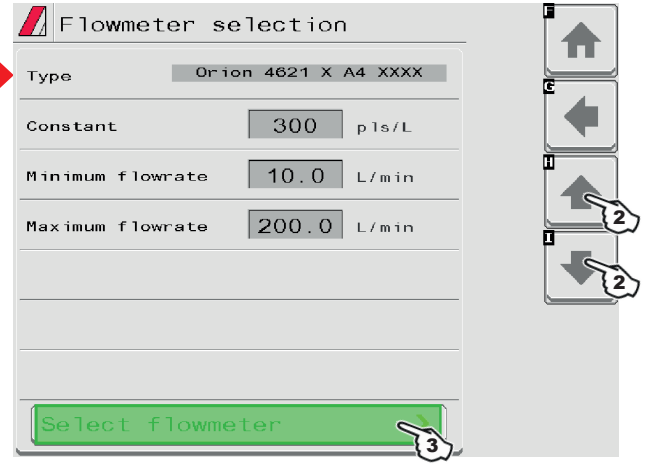

Fig. 44
- 1 Set installed flowmeter by selecting it from the list in Fig. 44 (use keys 2 to scroll items, and key 3 to confirm).